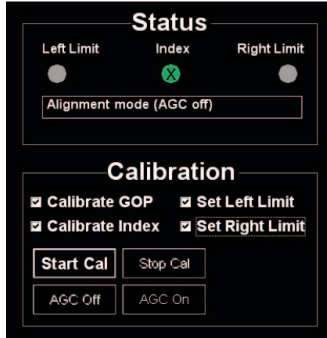

Fig. 20: status Sensor / Scale
2. Press the Start Cal button (Fig. 20).